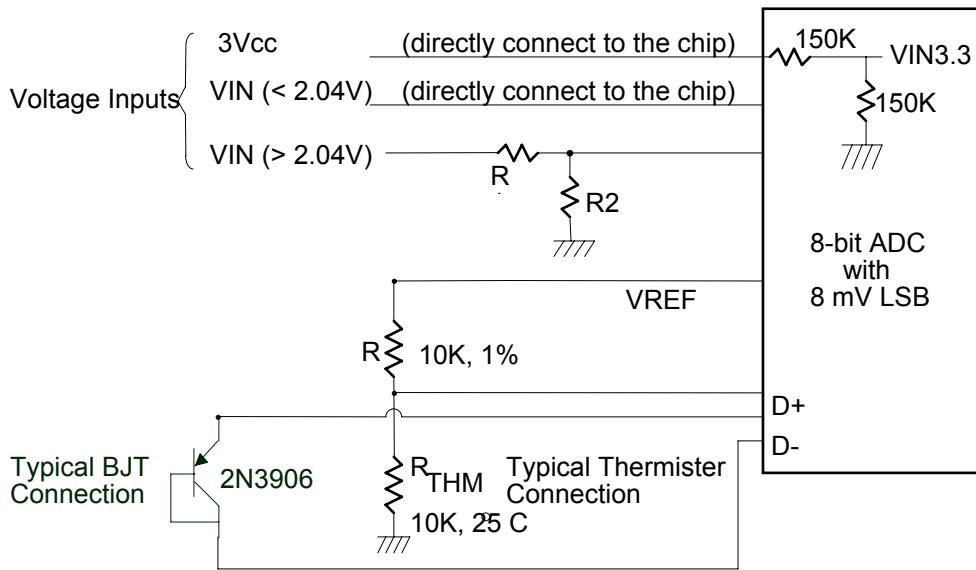

Fig 7-1
For the 8-bit ADC has the 8mv LSB, the maximum input voltage of the analog pin is 2.04V. Therefore the voltage under 2.04V (ex:1.5V) can be directly connected to these analog inputs. The voltage higher than 2.04V should be reduced by a factor with external resistors so as to obtain the input range. Only 3Vcc is an exception for it is main power of the F81865. Therefore 3Vcc can directly connect to this chip's power pin and need no external resistors. There are two functions in this pin with 3.3V. The first function is to supply internal analog power of the F81865 and the second function is that voltage with 3.3V is connected to internal serial resistors to monitor the +3.3V voltage. The internal serial resistors are two 150K ohm, so that the internal reduced voltage is half of +3.3V (See figure 7-1).
temperature. The specification of thermistor should be considered to (1)  $\beta$  value is 3435K (2) resistor value is 10K ohm at 25°C. In the Figure 7-1, the thermistor is connected by a serial resistor with 10K ohm, then connected to VREF.
Also, if the CPU, GPU or external circuits provide thermal diode for temperature measurement, the F81865 is capable to these situations. The build-in reference table is for PNP 2N3906 transistor. In the Figure 7-1, the transistor is directly connected into temperature pins.